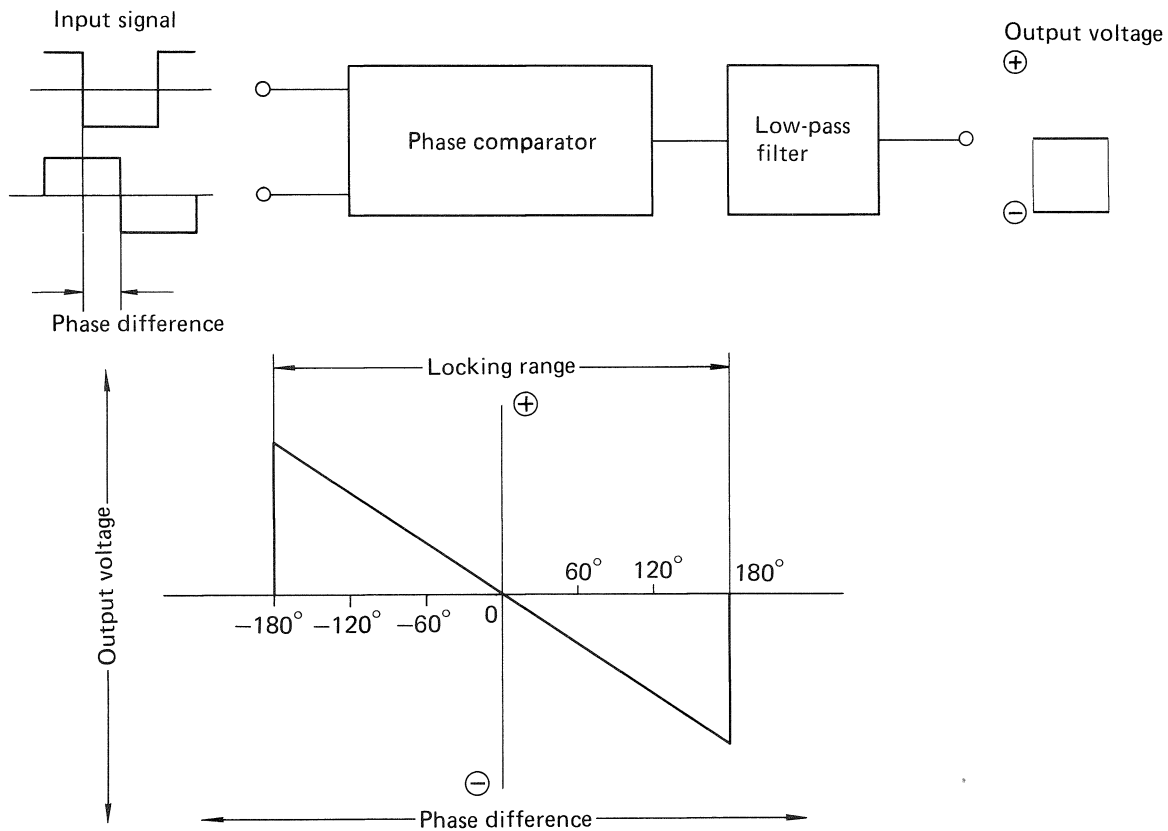

Fig. 31 Phase comparator operation
3. Fine adjust the semi-fixed resistor (VR2 white-colored) on the assembly unit until the strobo grooves appear stationary (see Fig. 31)